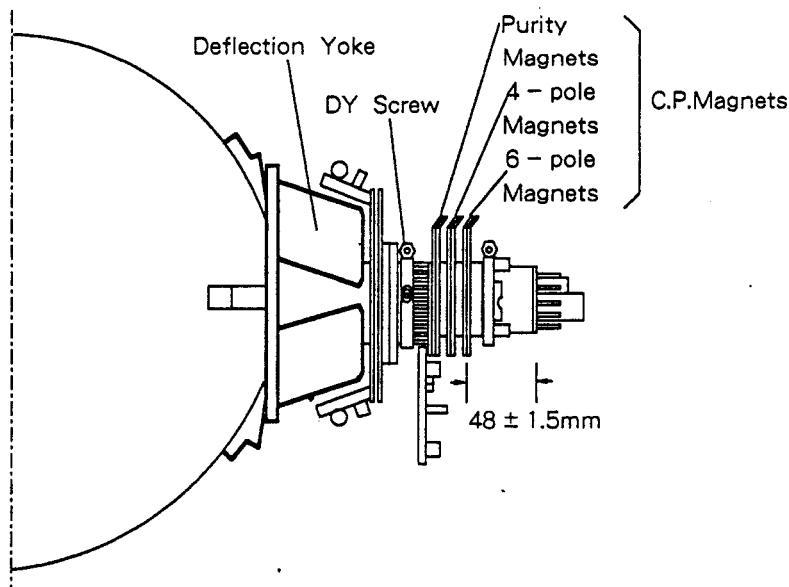

Fig. 14 - 1
- (1) Remove the deflection yoke and rubber wedges from the picture tube cone with care not to strike or scratch the cone surface.
- (2) Clean the remaining cement off the deflection yoke and the surface of the picture tube cone.
- (3) Put the deflection yoke on the neck of the picture tube, fully forward against cone.
- (4) Put the Purity Convergence assembly on the neck of the picture - tube so that the distance between the 6 - pole magnet and the base of the tube is 48 ± 1.5 mm as shown in Fig. 14 - 1, and tighten screw by hand.
- (5) Demagnetize the front and sides of the picture tube with a degaussing coil.